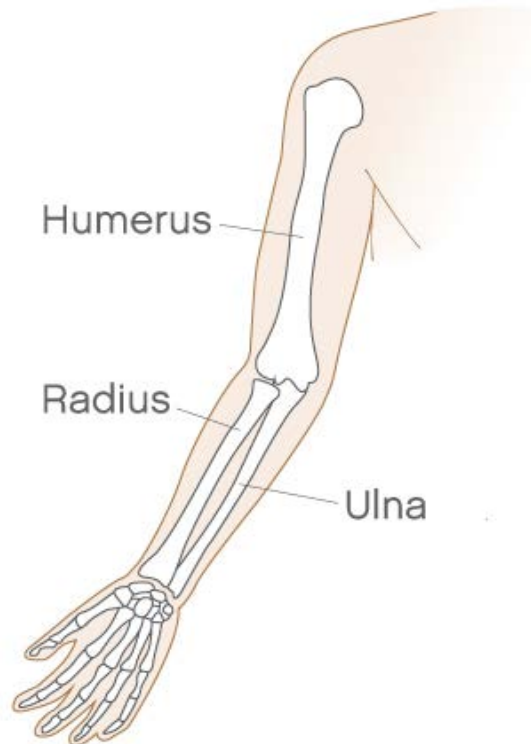

Figure 10: The skeletal anatomy of the arm.
1. The ulna is the bone that extends from the elbow to the wrist on the outside of the arm (Figure 10).